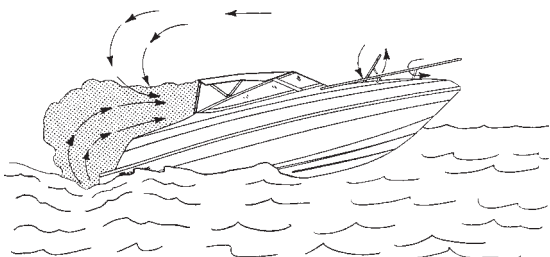

Figure B8: Backdrafting - Air flows over boat and behind transom.
Backdrafting or the “station wagon effect” is caused by air movement over or around a boat creating a low pressure area or suction area around the stern that can increase CO level on the boat. Backdrafting can be affected by relative wind direction, boat speed, and boat trim angle. See Figure B8 Backdrafting - Airflows Over Boat and Behind Transom”.
3. Canvas Configurations - Under various conditions, adding or removing canvas may raise or lower CO levels. See Figures B8, B9 & B11.